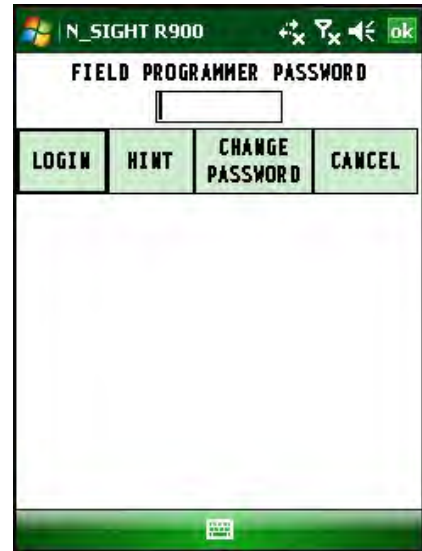

Figure 8.37 Configure Gas Password Screen
The Field Programmer Password screen appears as shown in Figure 8.37.
- 2 When prompted, type your password and press **Enter**. See Figure 8.37